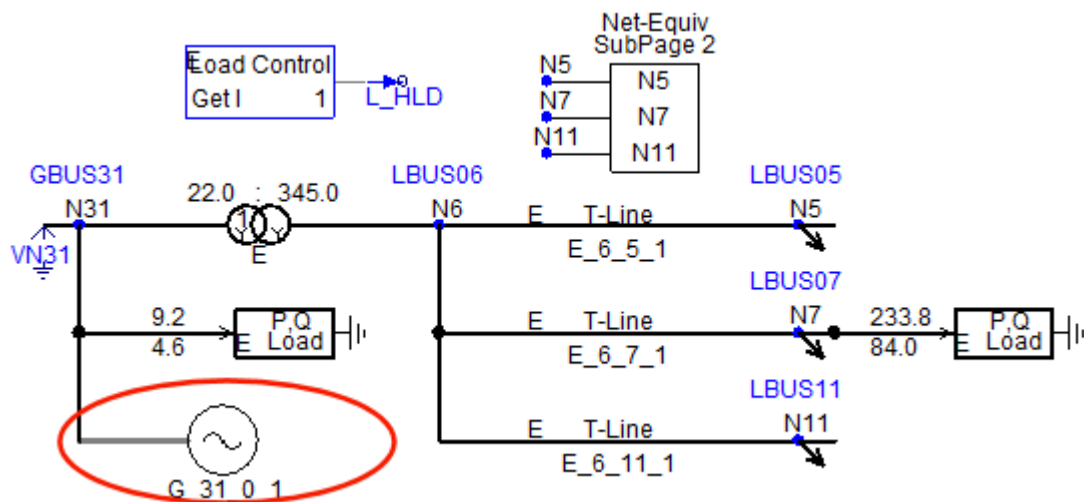

Figure 5.8 A detailed transformer model substituted in the IEEE 39bus system.
**Note:** When I generated the circuit model in Figure 5.8 the transformer and the transmission line developed in examples one and two respectively, were removed from the example substitution library and that is why they did not get substituted into this circuit. Alternatively I could have left them in the substitution library and E-TRAN would have replaced the transformer from bus 31 to bus 6 and the transmission line from bus 6 to bus 7.